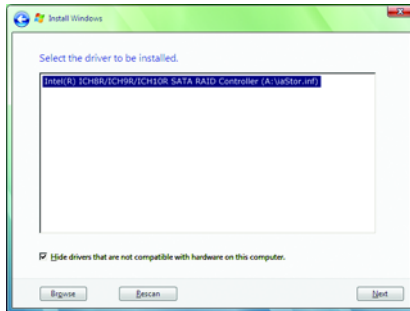

Figure 5
When a screen as shown in Figure 5 appears, select **Intel(R) ICH8R/ICH9R/ICH10R SATA RAID Controller (A:\u002Fstor.inf)** and press **Next**.